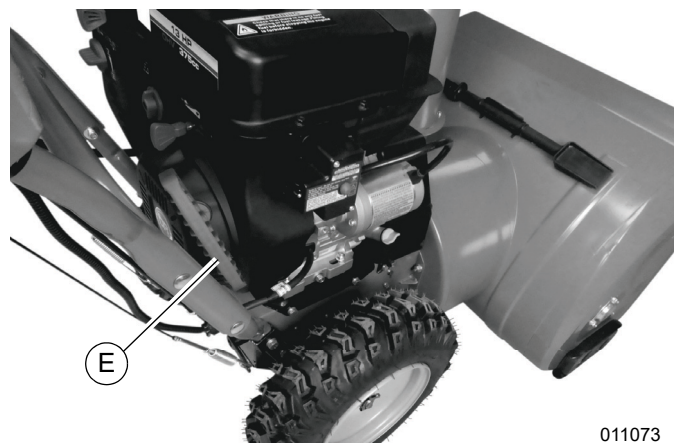

Figure 3-2. Starter Cord
5. Push and release primer bulb (D) three times.
6. See Figure 3-2. Slowly pull starter cord (E) until resistance is felt, then pull starter cord rapidly. Starter cord will recoil back into position when released.